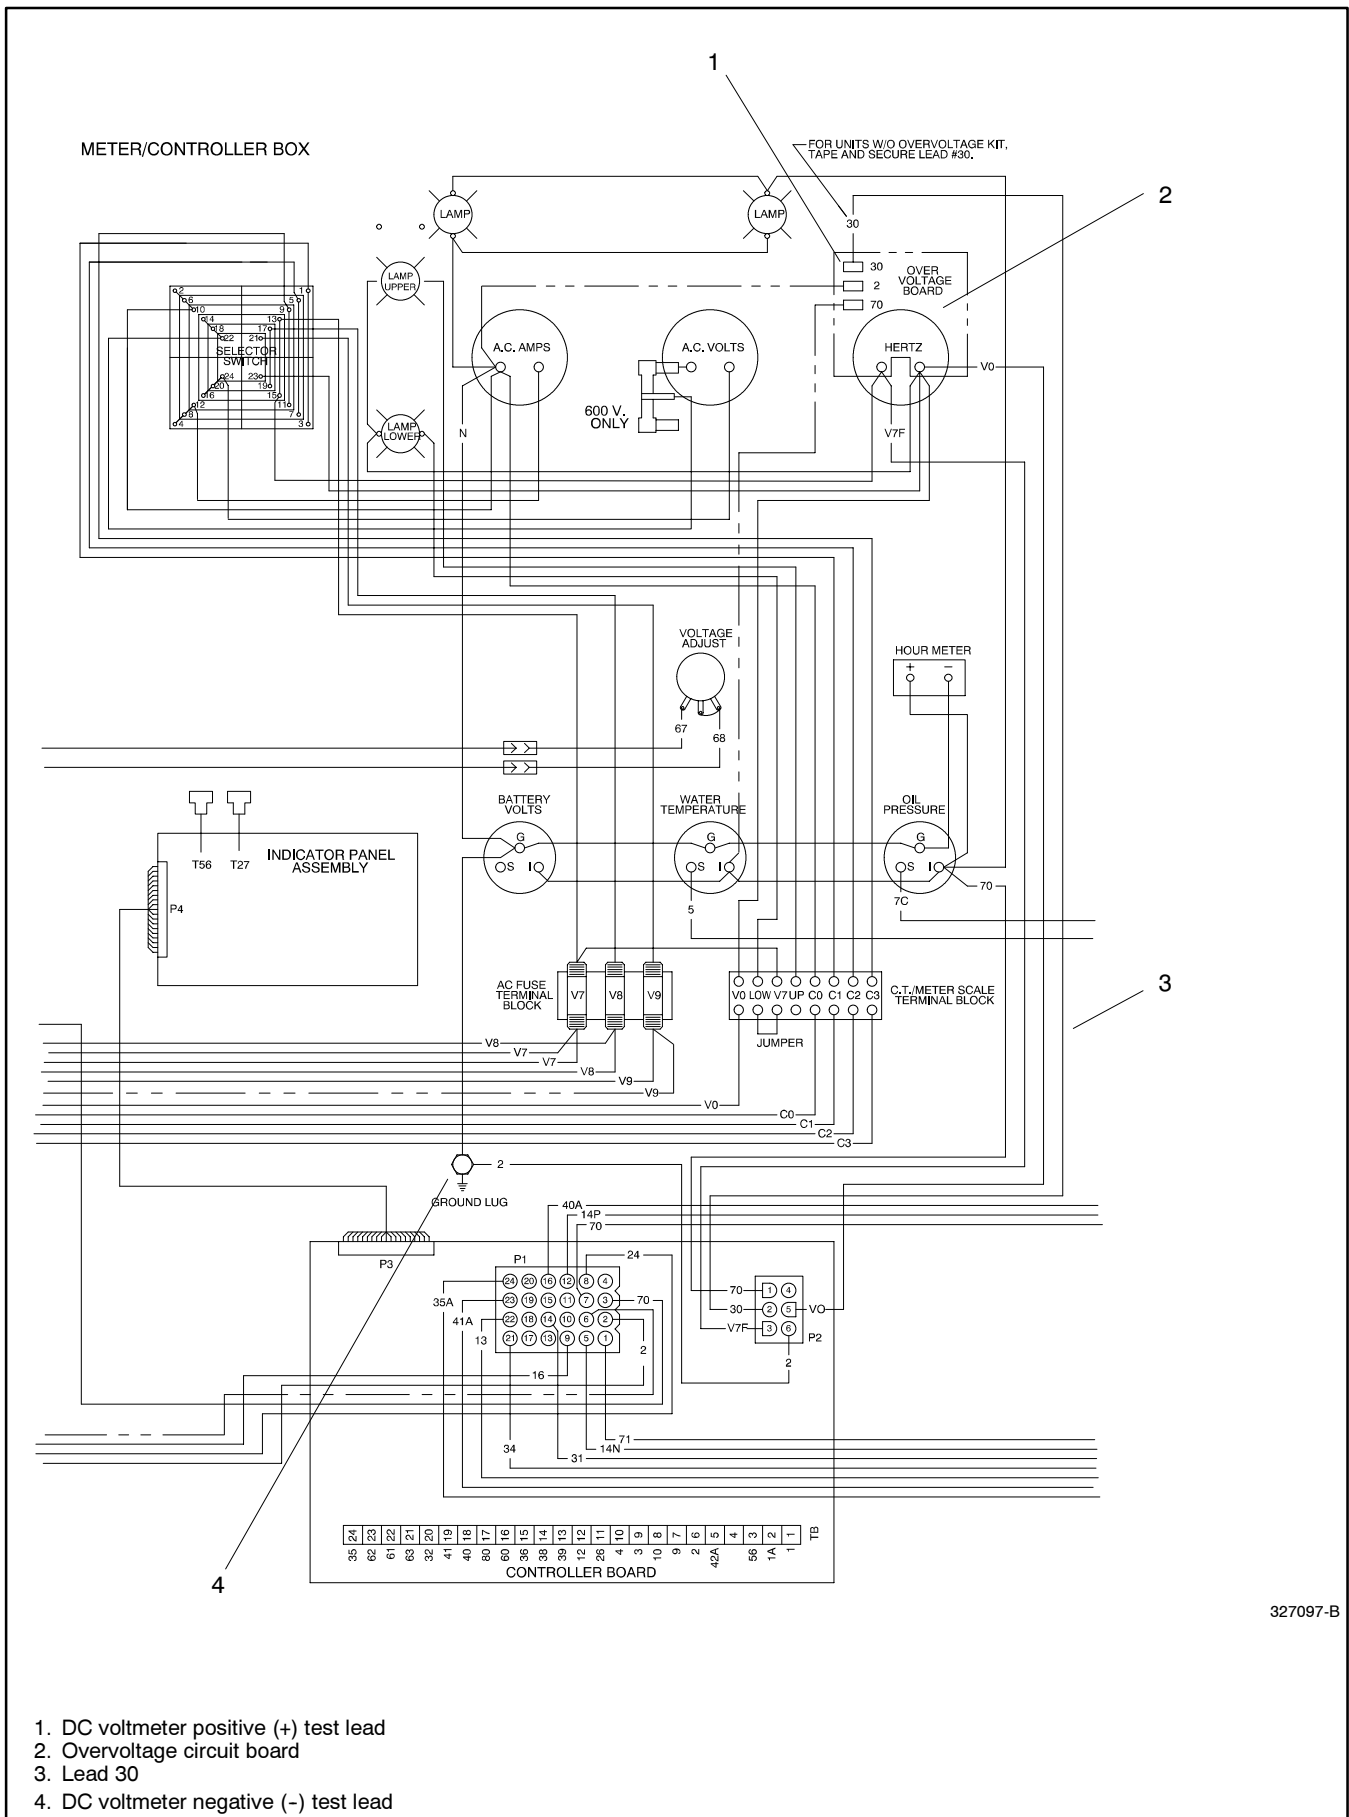

Figure 3 DC Voltmeter Test Conditions
- a. With the generator stopped, disconnect lead 30 at the overvoltage shutdown board. Connect the DC voltmeter (10-volt scale or higher) positive (+) test lead to terminal 30 on the overvoltage shutdown board and the negative (-) test lead to the controller ground lug. See Figure 3.